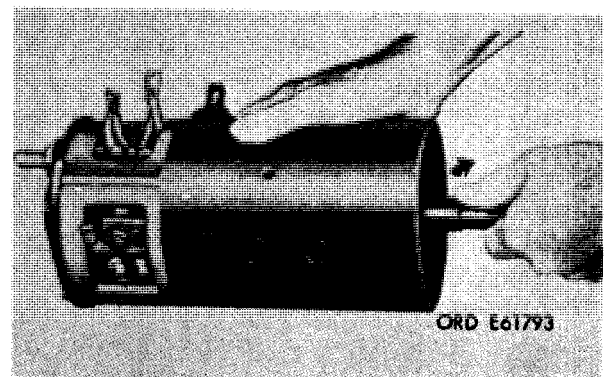
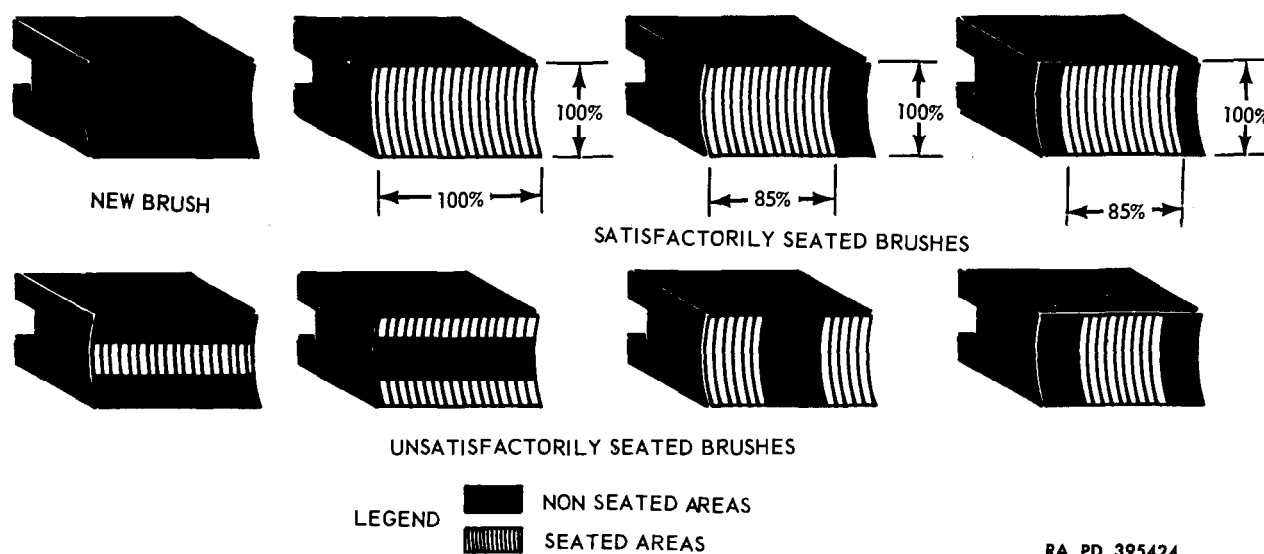

Figure 3-37. Rotating armature to seat brushes.
Figure 3-38. Examples of satisfactory and unsatisfactory brush seats.
c. Rotate armature clockwise as shown in figure 3-37 to seat brushes. Continue this procedure until a proper brush seat has been obtained as shown in figure 3-38.